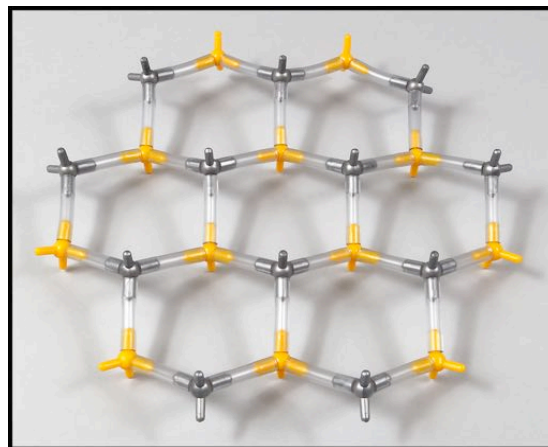

Fig. 3
3. Continue connecting alternating zinc and sulfide ions to this hexagon forming six more hexagons (Fig. 3). Follow the same pattern as in step 1 with the sulfide ions pointing down and zinc ions pointing up.